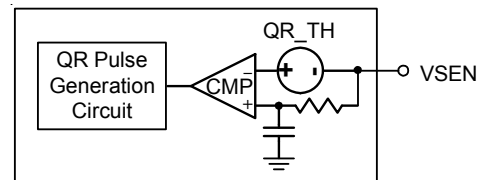

Figure 12. VDD Controller: Quick Response Triggering Circuit
When the transient load step-up becomes quite large, it is difficult for loop response to meet the energy transfer. Hence, the output voltage generate undershoot to fail specification. The RT3662AC has Quick Response (QR) mechanism which is able to improve this issue. It adopts a nonlinear control mechanism which can disable interleaving function and simultaneously turn on all UGATE one pulse at instantaneous step-up transient load to restrain the output voltage drooping. The output voltage signal behavior needs to be detected so that QR mechanism can be triggered. Refer to Figure 12, the output voltage signal is via a remote sense line to connect at the VSEN pin. The QR threshold can be set by SET1 pin setting for VDD controller refers to Table 3.
Then solving the switching condition VCOMP2 = VCS in Figure 12 yields the desired error amplifier gain as